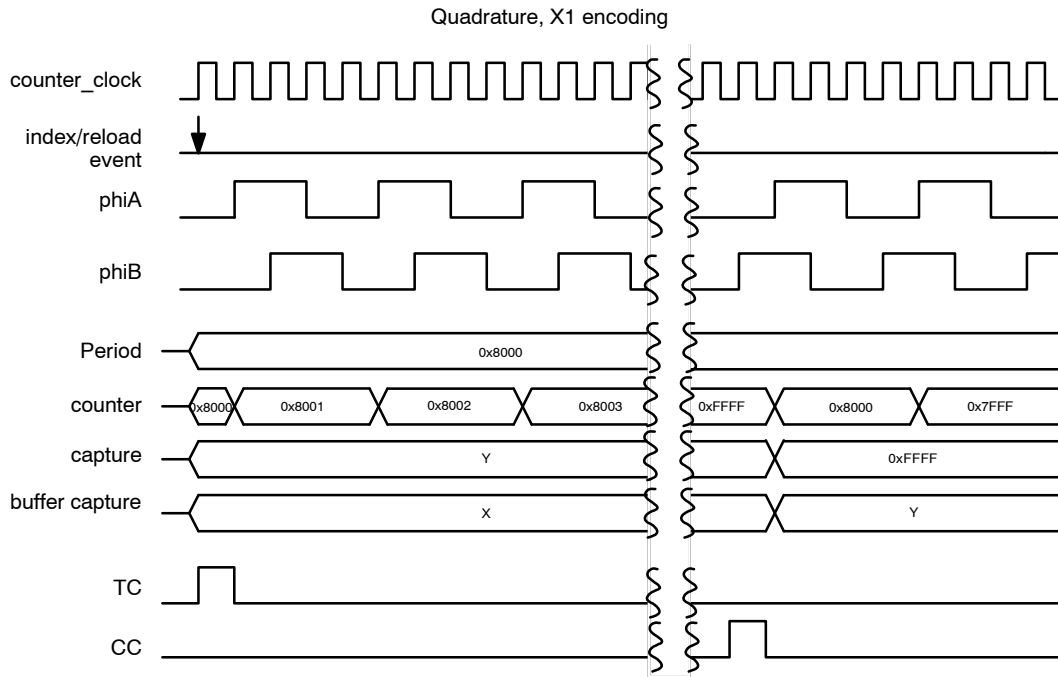

Figure 67. Timing Diagram for Quadrature Mode, X1 Encoding
- Quadrature index signal: This is connected to the reload signal as a hardware input. This event generates a TC condition, as shown in Figure 67.
- The DOWN bit field of counter status (TCPWM_CNTx_STATUS) register can be read to determine the current counting direction. Value ‘0’ indicates a previous increment operation and value ‘1’ indicates previous decrement operation. Figure 67 illustrates quadrature behavior in the X1 encoding mode.